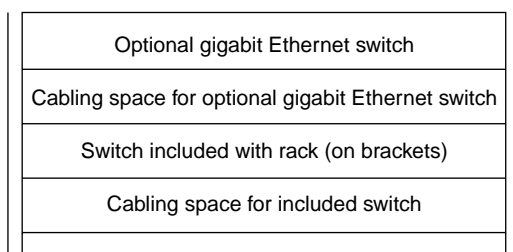

Figure 4-21 Switch Placement in Rack
- Angle the switch into the rack and place it in the top 1U space in the rack; see Figure 4-21.